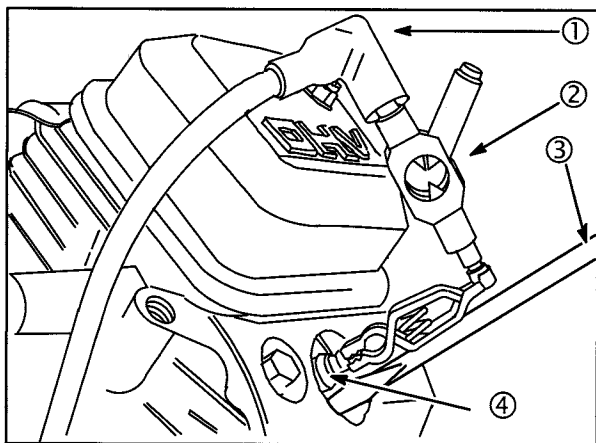

Fig. 3
To test for a fouled spark plug or a non-functioning cylinder, attach Ignition Tester #19368 (2) between the spark plug lead (1) and each spark plug (4). With engine running at top no-load speed, use a screwdriver (3) with an insulated handle to ground one spark plug by contacting the alligator clip on the ignition tester to a good ground on the engine, **Fig. 3**. The engine should continue to run on the other cylinder. Repeat this test with the other cylinder. If the engine dies when performing this test, the cylinder that is NOT grounded is not functioning and/or the spark plug is fouled. Install a new spark plug and re-check. If miss continues see the following procedures.